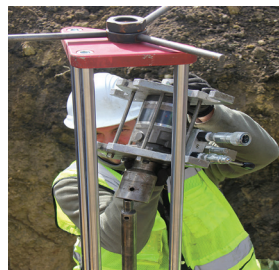

Figure 16
2.8.13) Lower the drive unit onto the machined hex of the saw mandrel. Confirm the drive unit is fully seated onto the machined hex of the saw mandrel (see Figure 16).